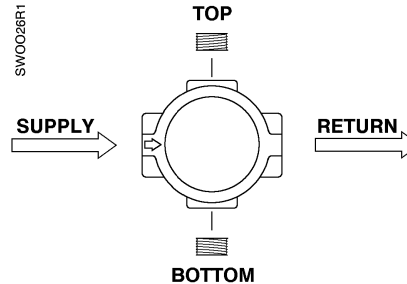

Figure 2. Positioning Switch Ports.
- Using an adjustable wrench, attach two 1/8-inch NPT female brass fittings into the supply and return ports. (Figure 2). The supply port is marked with an arrow  cast into the body.